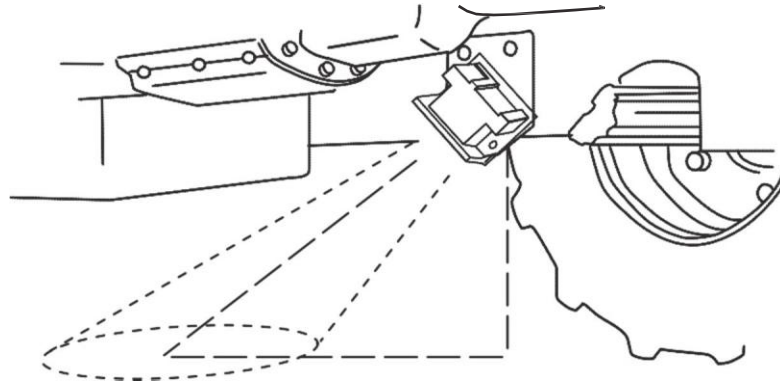

Figure 2: Unobstructed Mounting Location
- The face of the radar must have an unobstructed view of the ground. The area that must remain unobstructed is cone-shaped from the face of the radar to the ground, as illustrated in Figure 2. The pattern of the radar signal on the ground is oval-shaped due to the installation angle. The size of the oval pattern is dependent on the radar height above ground